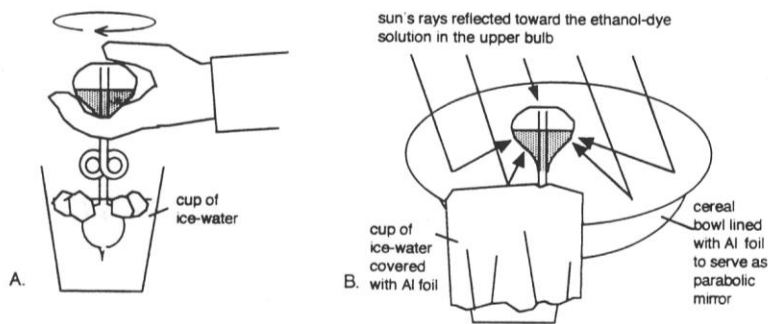

Fig. 3 The distillation apparatus, a) "biothermally driven"; b) solar powered.
3. Cup the upper bulb in your hand, with the tube extending down between your ring and middle fingers, so that your hand is in good contact with the glass holding the ethanol. Place the empty lower bulb into a cup of water – or better, a salt-ice slurry (see Fig. 3).